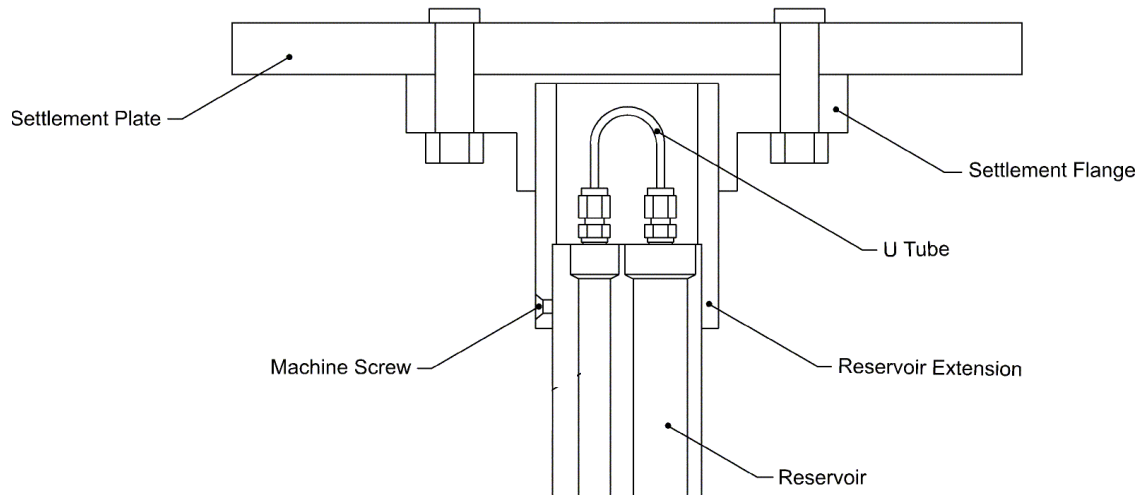

Figure 25 - Reservoir Attachment
- 9) Attach the settlement flange and plate to the reservoir using the four ¼-20 flat head screws provided (Figure 25).